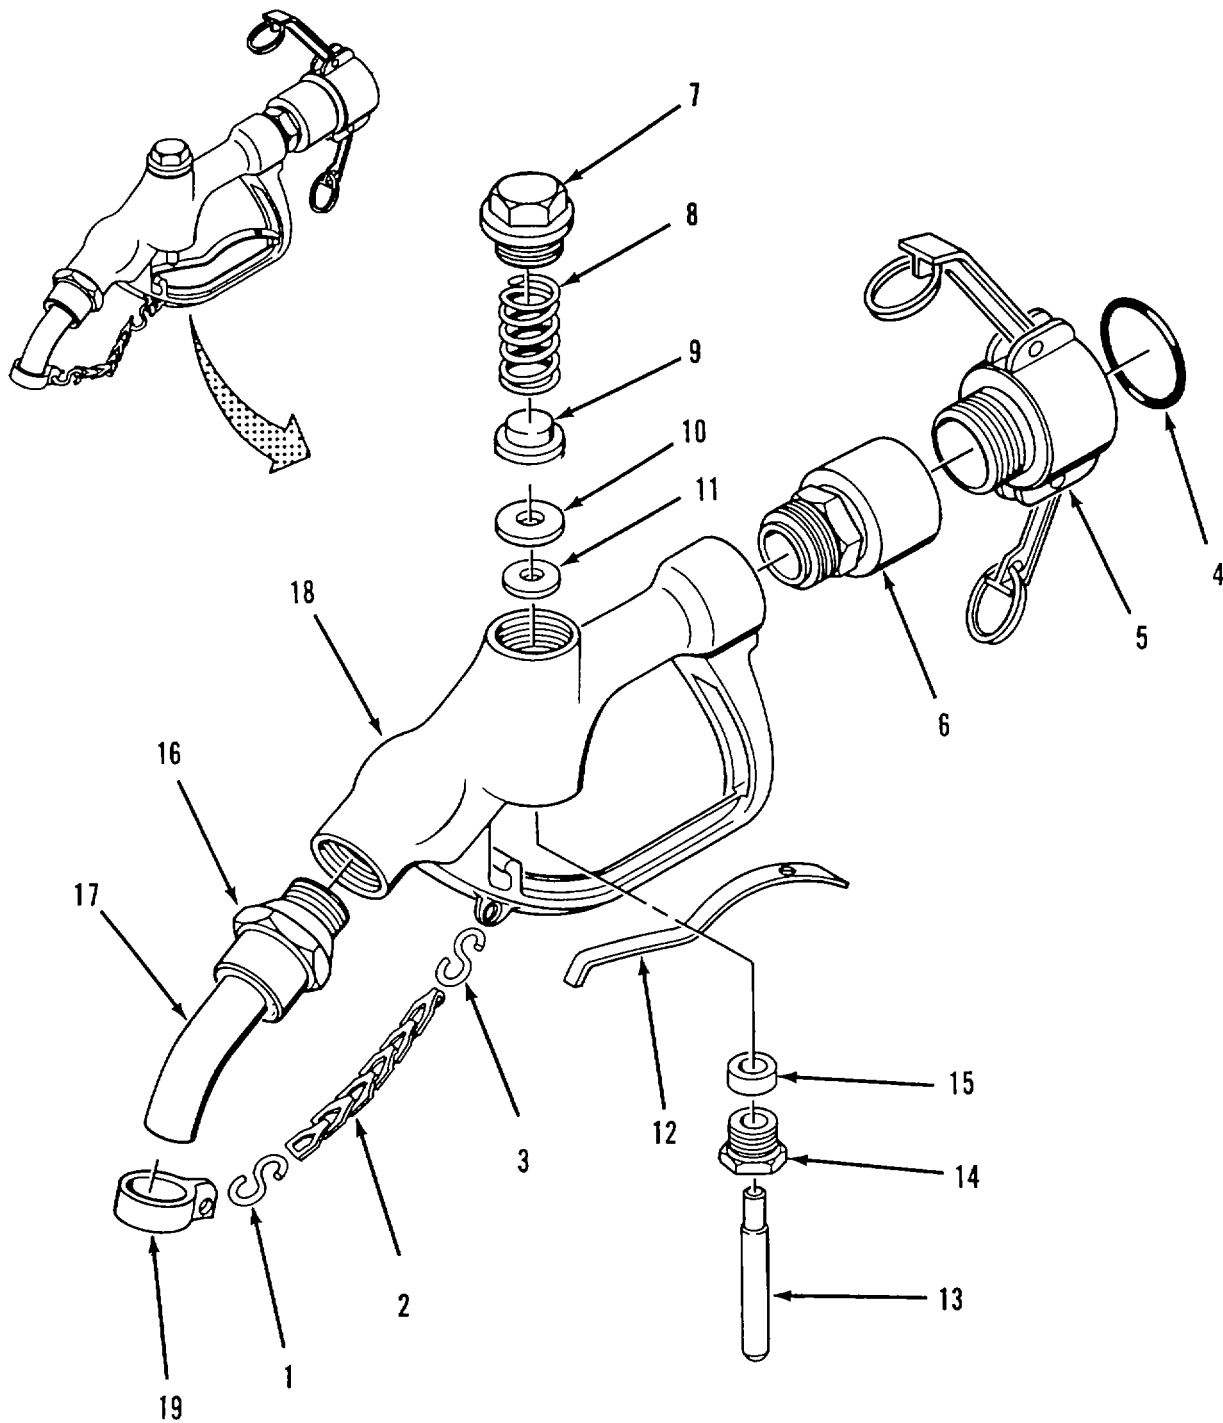

Figure 4-8. Distribution Nozzle (1-Inch) Disassembly
- a. Disassembly. Refer to figure 4-8
- (1) Disconnect S-hook (1) and remove cap (19) from chain (2).
- (2) Disconnect S-hook (3) from body (18) and remove chain (2).
- (3) Remove gasket (4) from coupling half (5).
- (4) Remove swivel (6) and coupling half (5) from body (18).
- (5) Unscrew coupling half (5) from swivel (6)